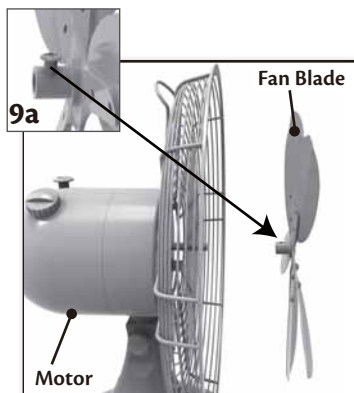

Figure 9
4. Loosen the screw on the back of the blade assembly. Figure 9a. Slide the blade assembly onto the motor shaft. Figure 9.